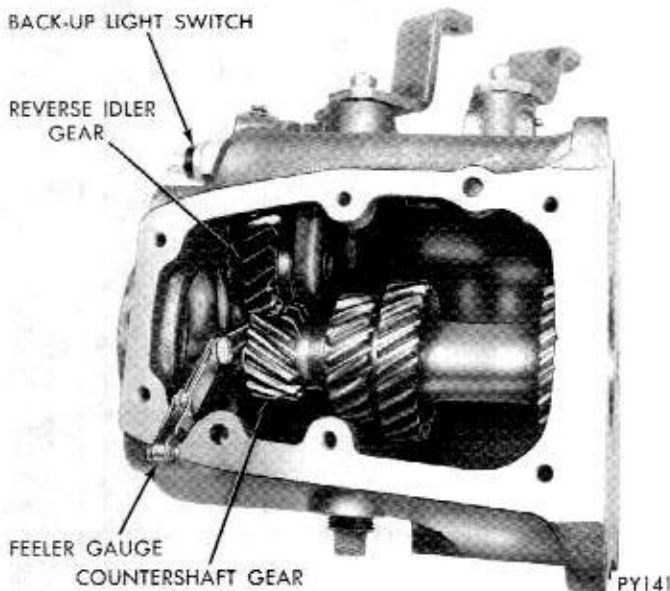

Fig. 26—Checking Countershaft Gear End Play
(1) Using a feeler gauge, check end play of countershaft gear (Fig. 26). The end play should be .005 to .022. (This measurement will determine if new thrust washers are to be installed at reassembly.)
(2) Using countershaft bearing arbor, Tool C-578 for A-903 transmission, drive countershaft toward rear of case until small key can be removed from countershaft.
(1) Position arbor Tool C-464 in reverse idler gear and using heavy grease, install 22 bearing rollers in gear.
(2) Place front and rear thrust washers at each end of reverse idler gear, and position assembly in transmission case with chamfered end of gear teeth toward front (Fig. 26).
(3) Insert reverse idler shaft into bore at rear of case with keyway to rear, pushing arbor toward front of transmission.
(4) With keyway aligned with recess in case, drive shaft forward, inserting key before keyway is obscured. Continue driving shaft forward until key seats in recess.